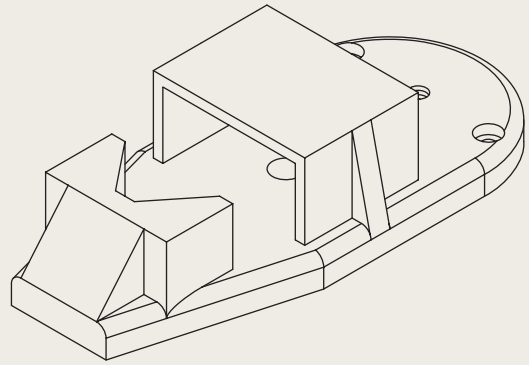
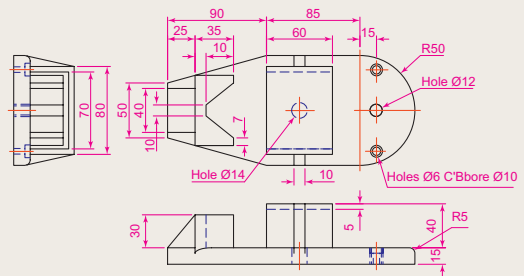

Fig. 7.30 Exercises 8 and 9 – an isometric drawing of the component for the two exercises
Fig. 7.31 Exercises 8 and 9
8. Construct a third angle projection of the component shown in the isometric drawing Fig. 7.30 and the three-view first angle projection Fig. 7.31.
9. Construct the isometric drawing shown in Fig. 7.30 working to the dimensions given in Fig. 7.31.